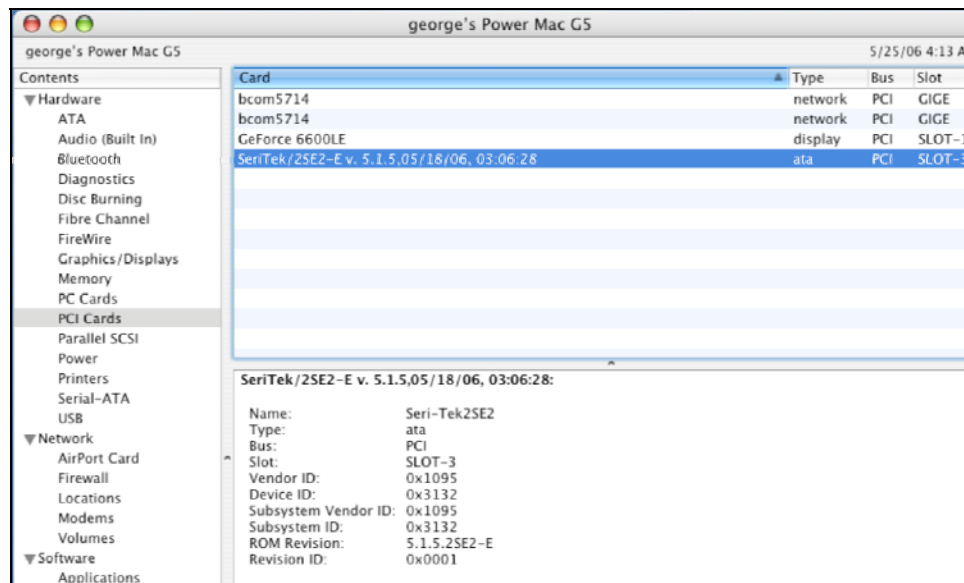

Figure 19: SeriTek/2SE4 Listed Under *PCI Cards*
2. Open *Hardware* and select *PCI Cards* (Figure 19).